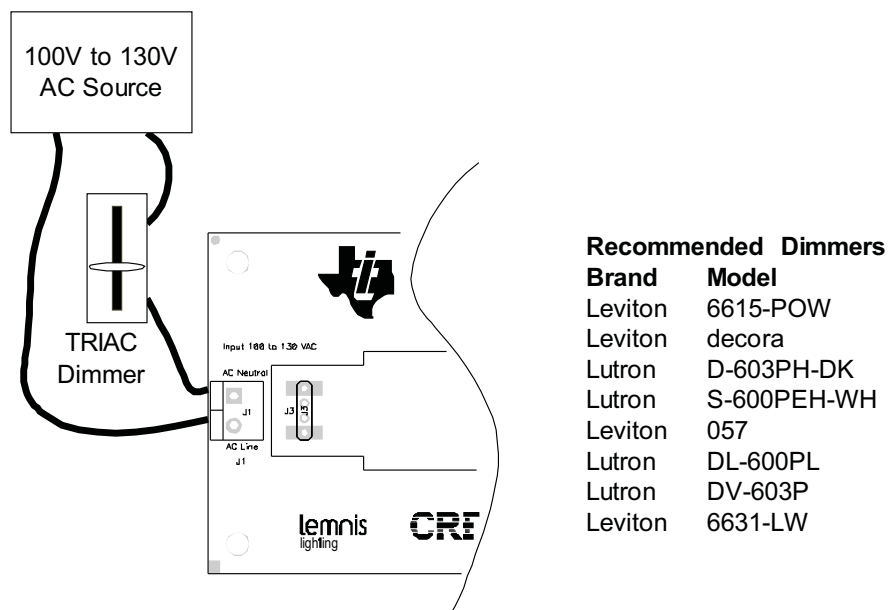

Figure 6. Recommended Test Set-Up Using TRIAC Dimmer
Figure 6 shows the recommended test set-up using the TRIAC dimmer.
2. Add TRIAC dimmer to the input as shown in Figure 6.